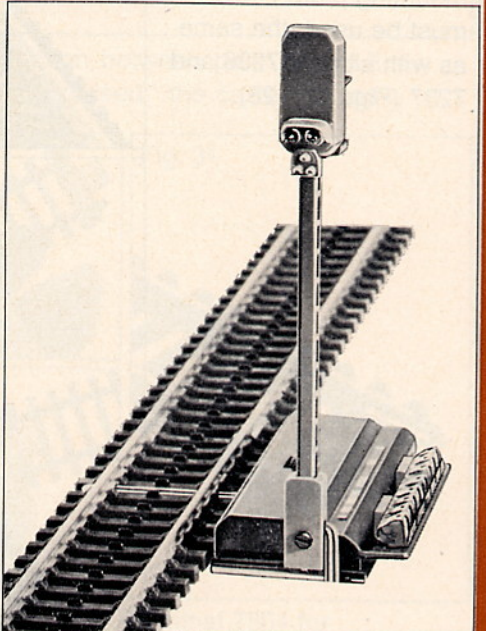
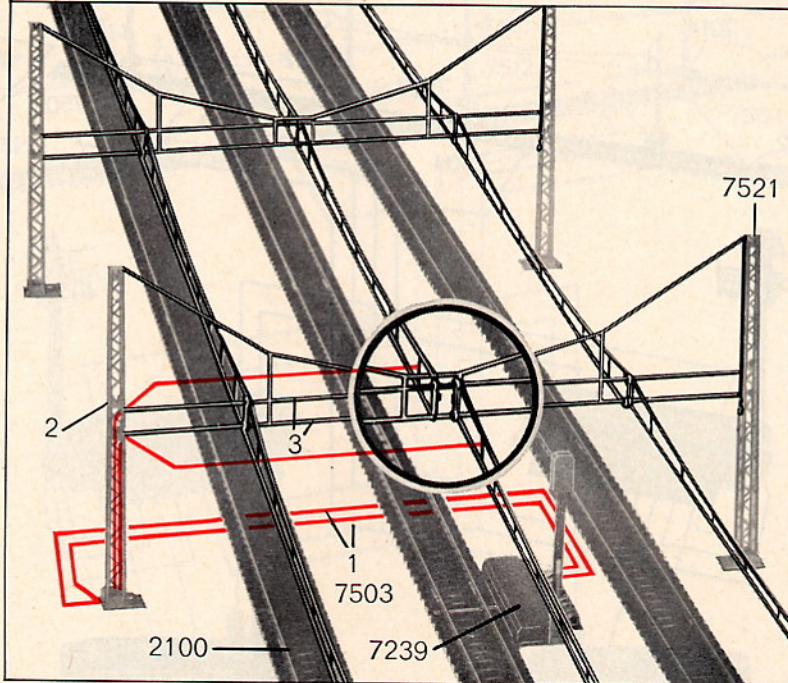

Fig. 25
Fig. 34 The connection of the catenary signal feeder wire 7503
Two catenary signal connecting wires 7503 are necessary instead of the catenary signal set 7505. Fig. 34 shows their connection with the catenary system. The current feeder wires (1) must first be connected to the last two red terminals of the signal (see also Fig. 25). These wires are then fed up through the mast (2) and along the cross span (3). The connecting wires are then connected to the wire clips on either side of the insulated catenary sections.